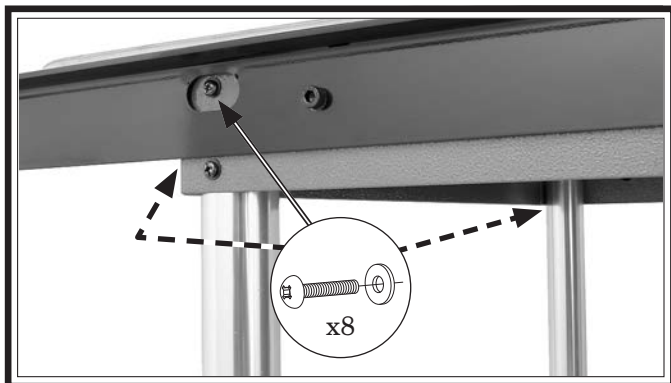

Figure 28. Support legs fastened to extension table.
- Fasten (2) support legs to extension table with (8) M6-1 x 12 Phillips head screws and (8) 6mm flat washers as shown in **Figure 28**.